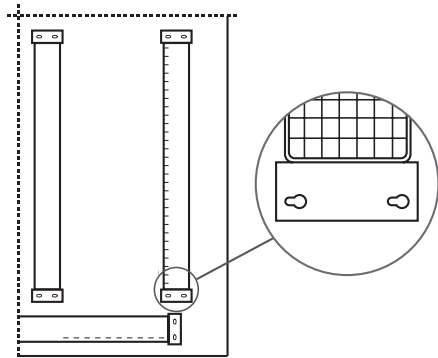

Figure 7.1.
1. The protective grille is attached at both ends with screws. Loosen them until the fastening plates become loose (see Figure 7.1).